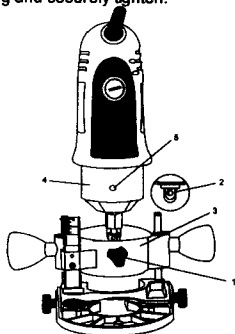

Fig. 15
2. Remove accessory locking knob (1) from the base of the cutter motor housing (see Fig. 15). Depress the motor shaft locking button (2) on the back of the motor housing (see inset).